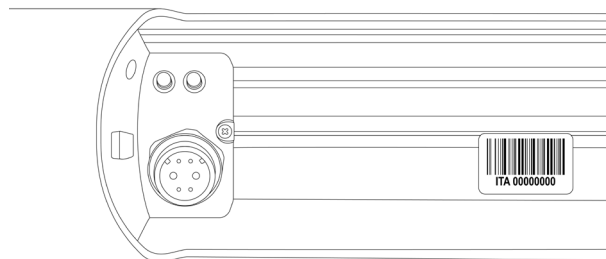

FIG. 19
- In order to make this warranty effective, you must fill out the online form which is accessed via QR CODE or connect directly to the site warranty.mbmbike.it by and no later than 15 days from the date of purchase of the bicycle. They will be needed the serial number and the photograph of the proof of purchase of the authorized retailer. The serial number is printed on the label on the battery slide and on the battery itself. (Fig. 19)